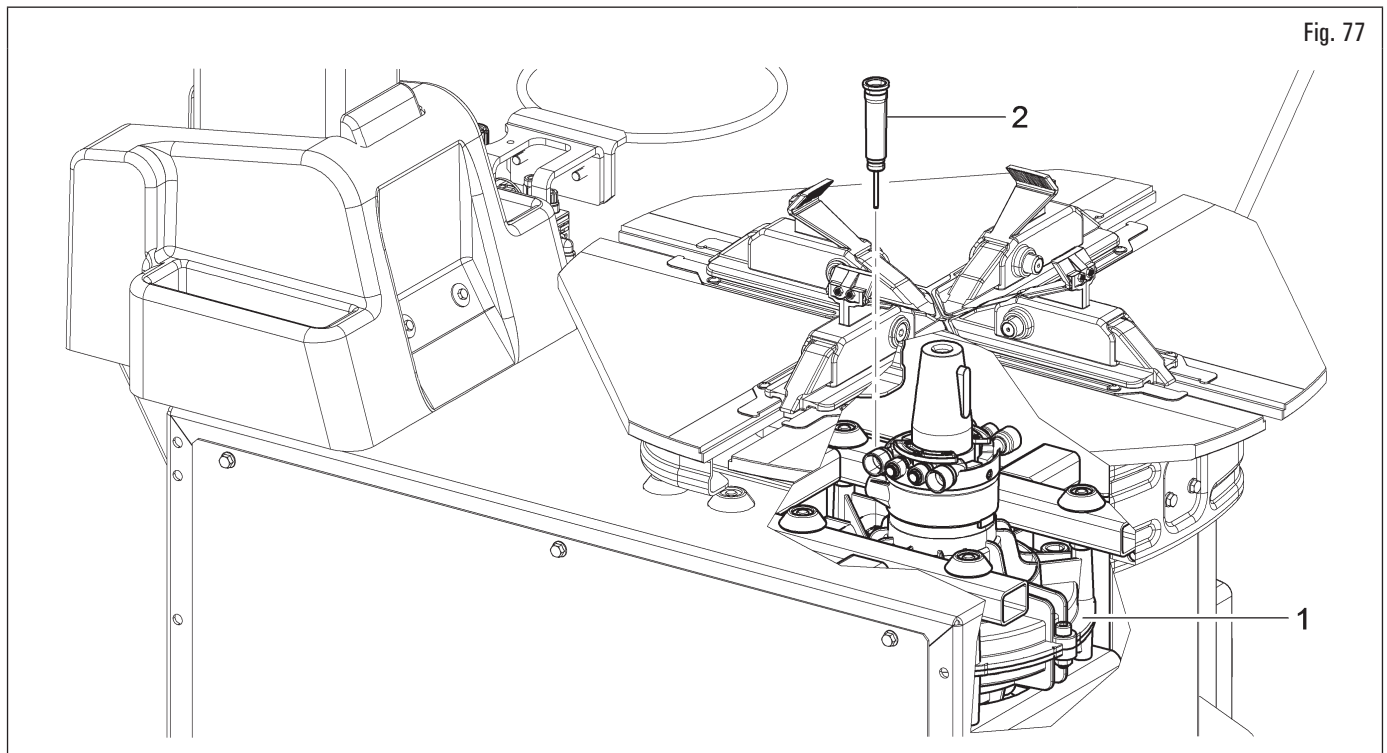

Fig. 77
- Periodically (at least each 100 working hours) check the lubricant level into the reduction gear (Fig. 77 ref. 1) removing the plug (Fig. 77 ref. 2) through the spy hole on the frame.